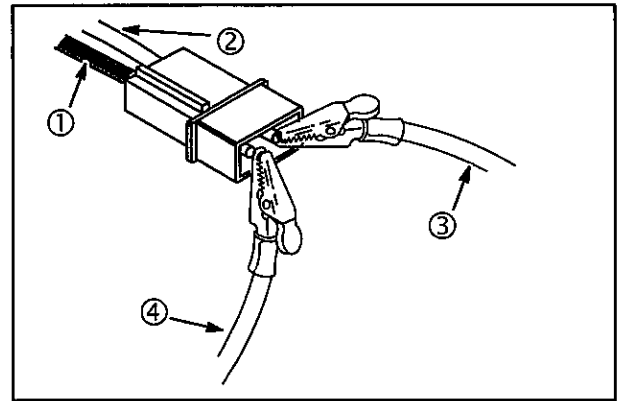

Fig. 55
1. Disconnect RED (1) and GREEN (2) wires from control module to actuator.
2. Attach jumper wires from battery to RED and GREEN wires to actuator, **Fig. 55**.